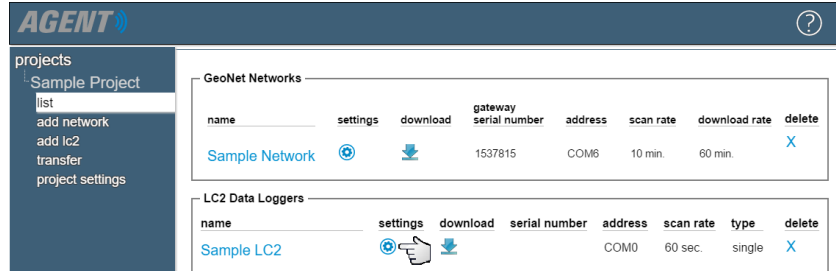

FIGURE 91: Select an LC2 Datalogger
1. Go to the **General** LC2 settings by selecting the Project that contains the LC2 and then selecting the corresponding  icon (Figure 91).